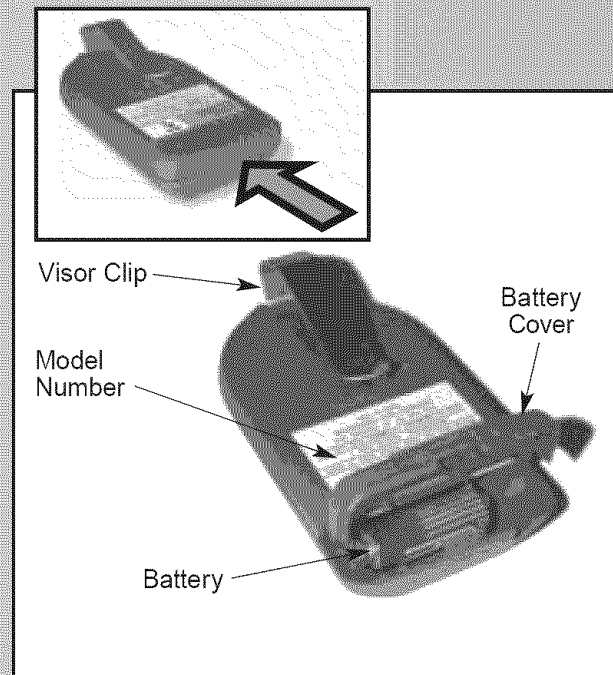

Fig. 8-1
**1. Install/replace battery Fig. 8-1.**